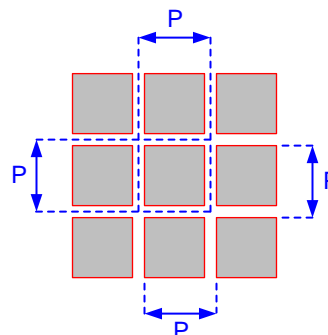

Figure 8. Micromirror Array Physical Characteristics
- (1) See Figure 8.
- (2) The structure and qualities of the border around the active array includes a band of partially functional micromirrors called the *Pond Of Mirrors* (POM). These micromirrors are structurally and/or electrically prevented from tilting toward the bright or "on" state but still require an electrical bias to tilt toward "off."